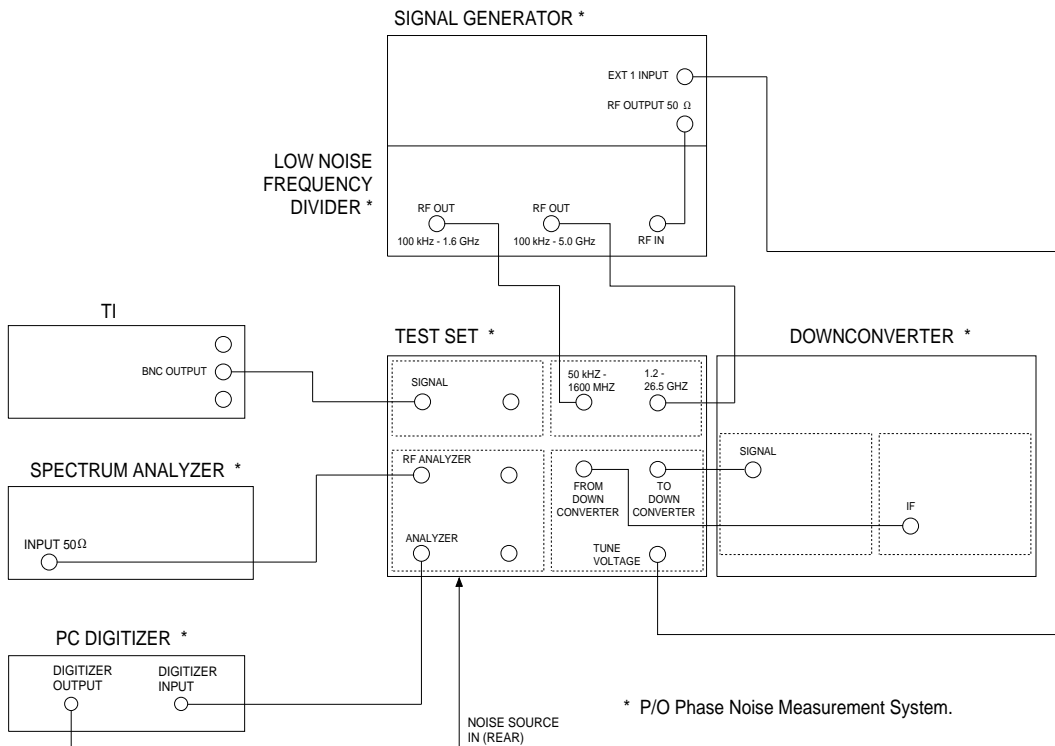

Figure 1.
4.2.2.3.12 Connect equipment as shown in Figure 1 and on the TI, press Rx TEST, RF Gen and set controls as follows: